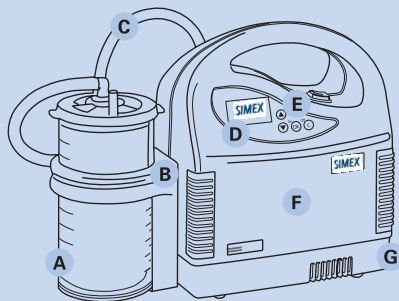

Fig.1
Use the power supply of the **SIMEX cuff S** (Chapter 2.1, Fig.1 (G)), to connect the device to the power grid by means of the included power supply (type: FW7555M/12) if necessary for charging or operating the device. Only use the included power supply.